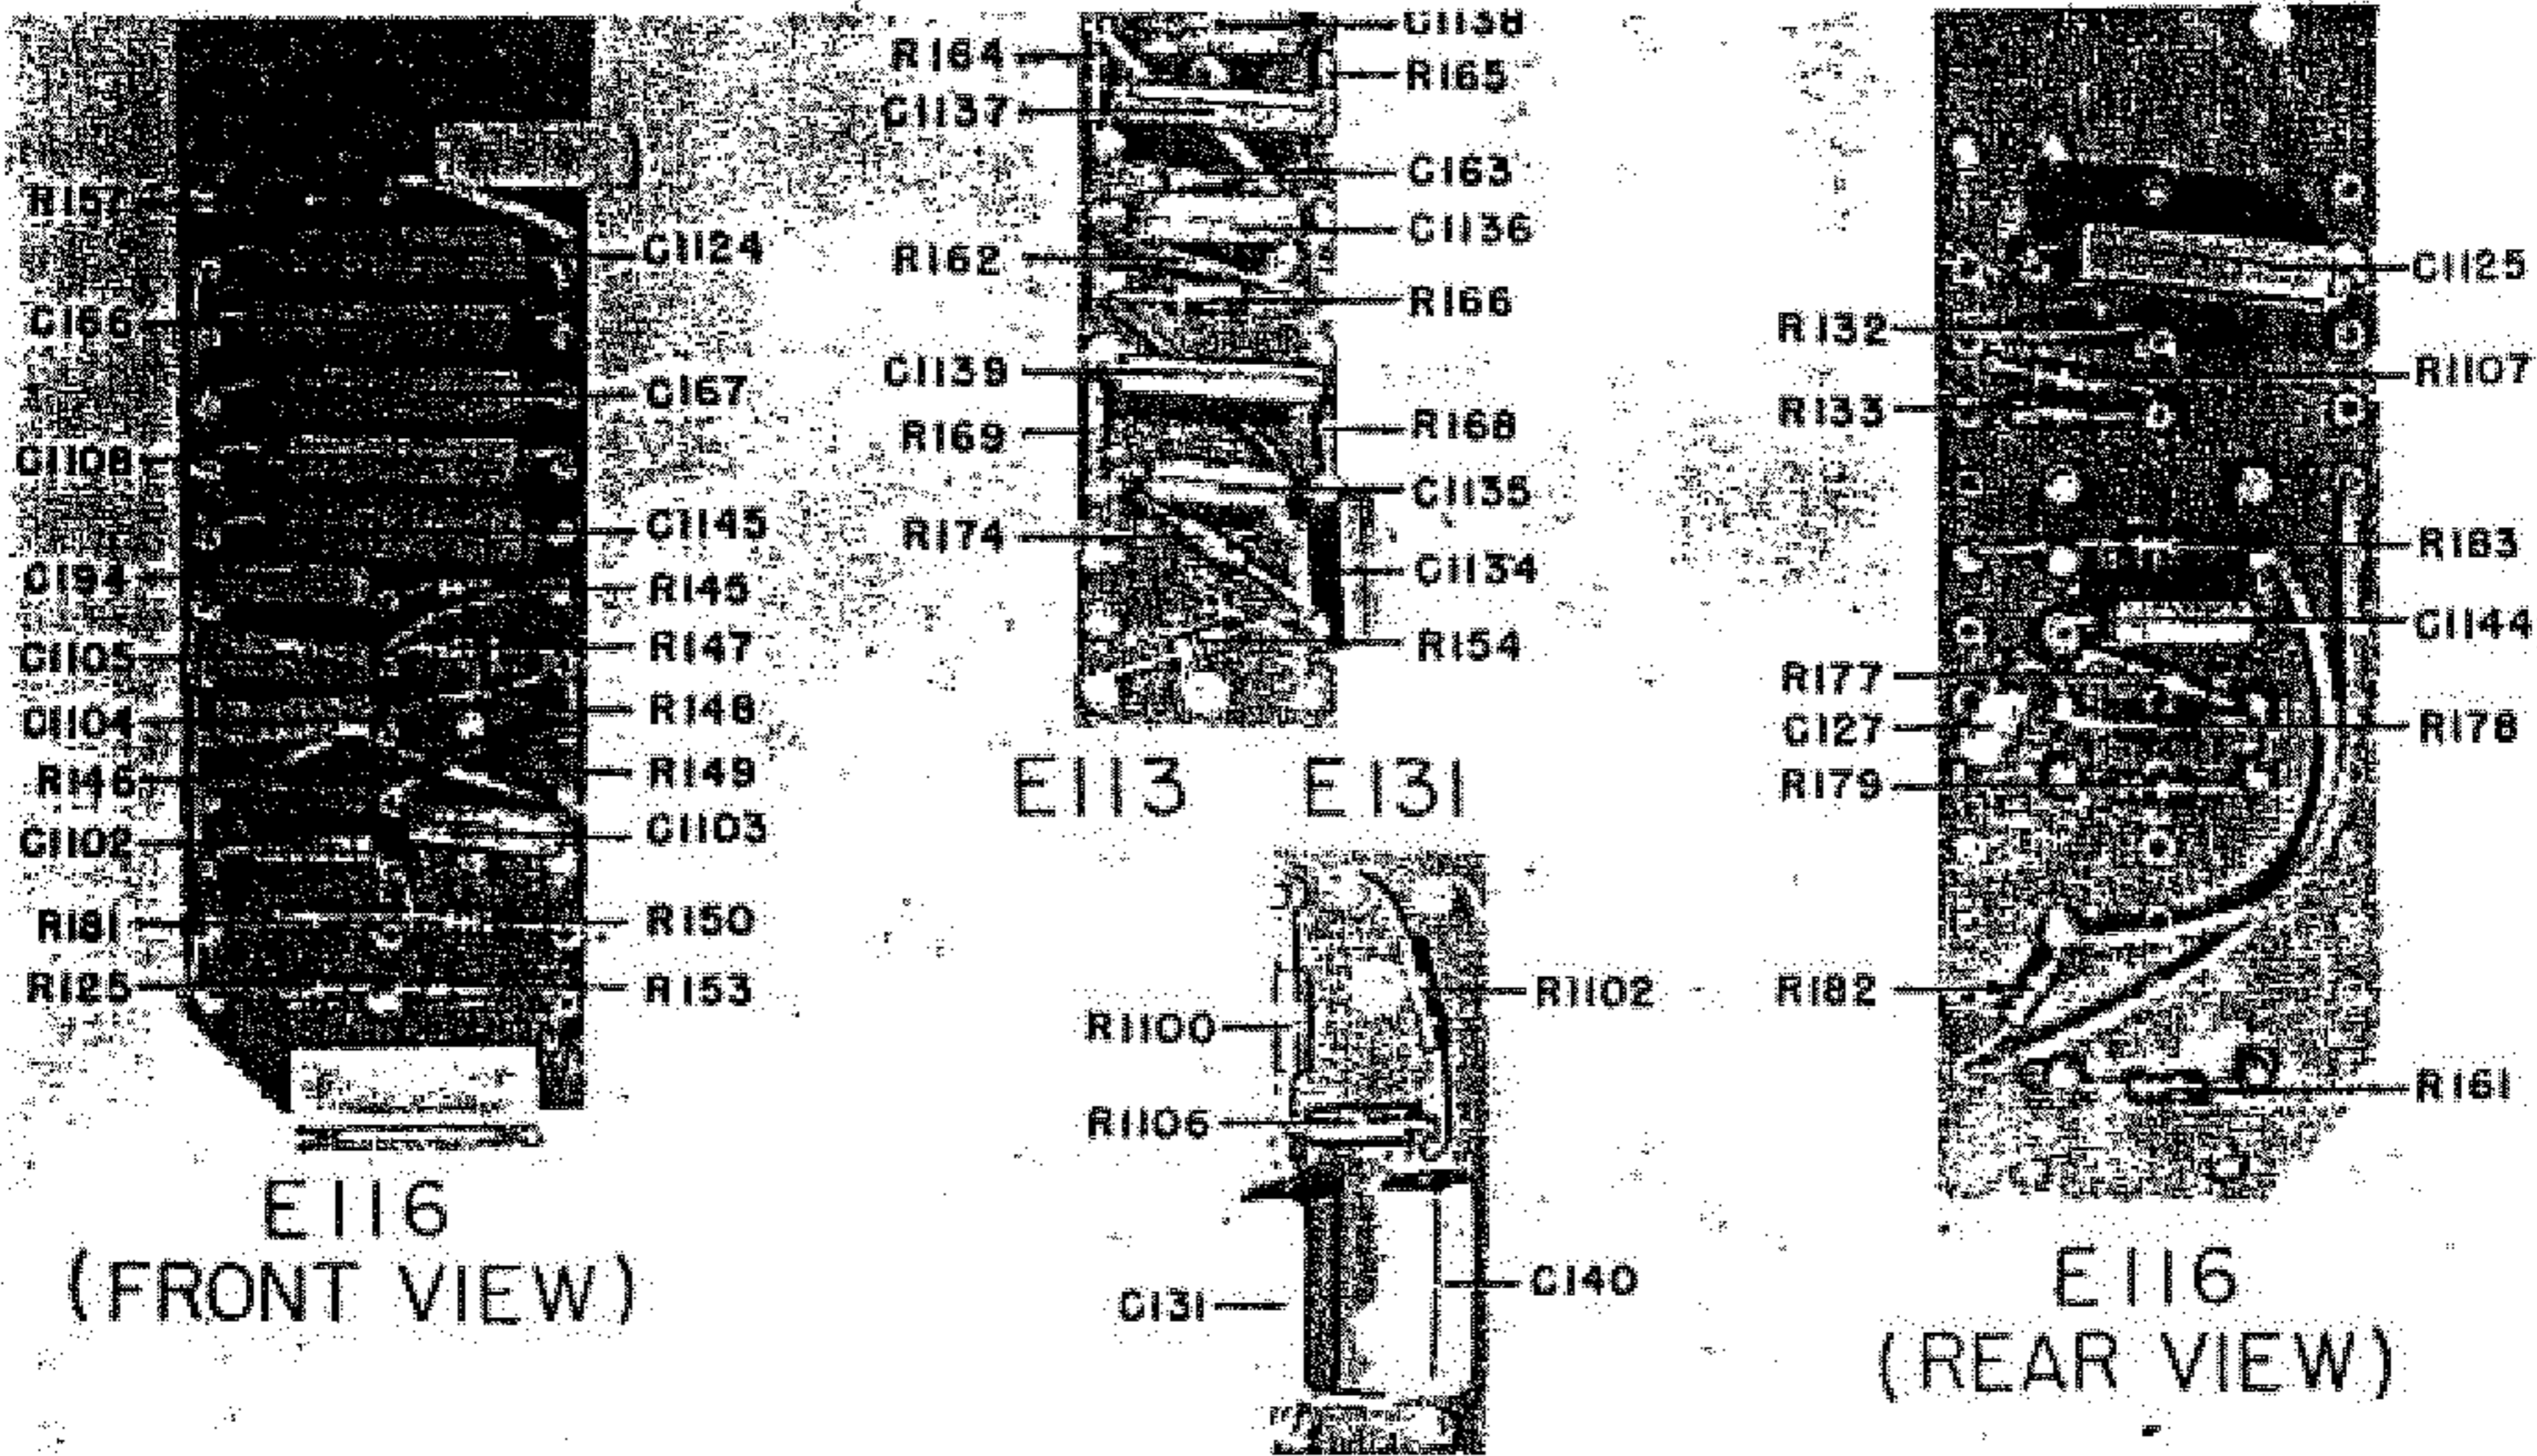
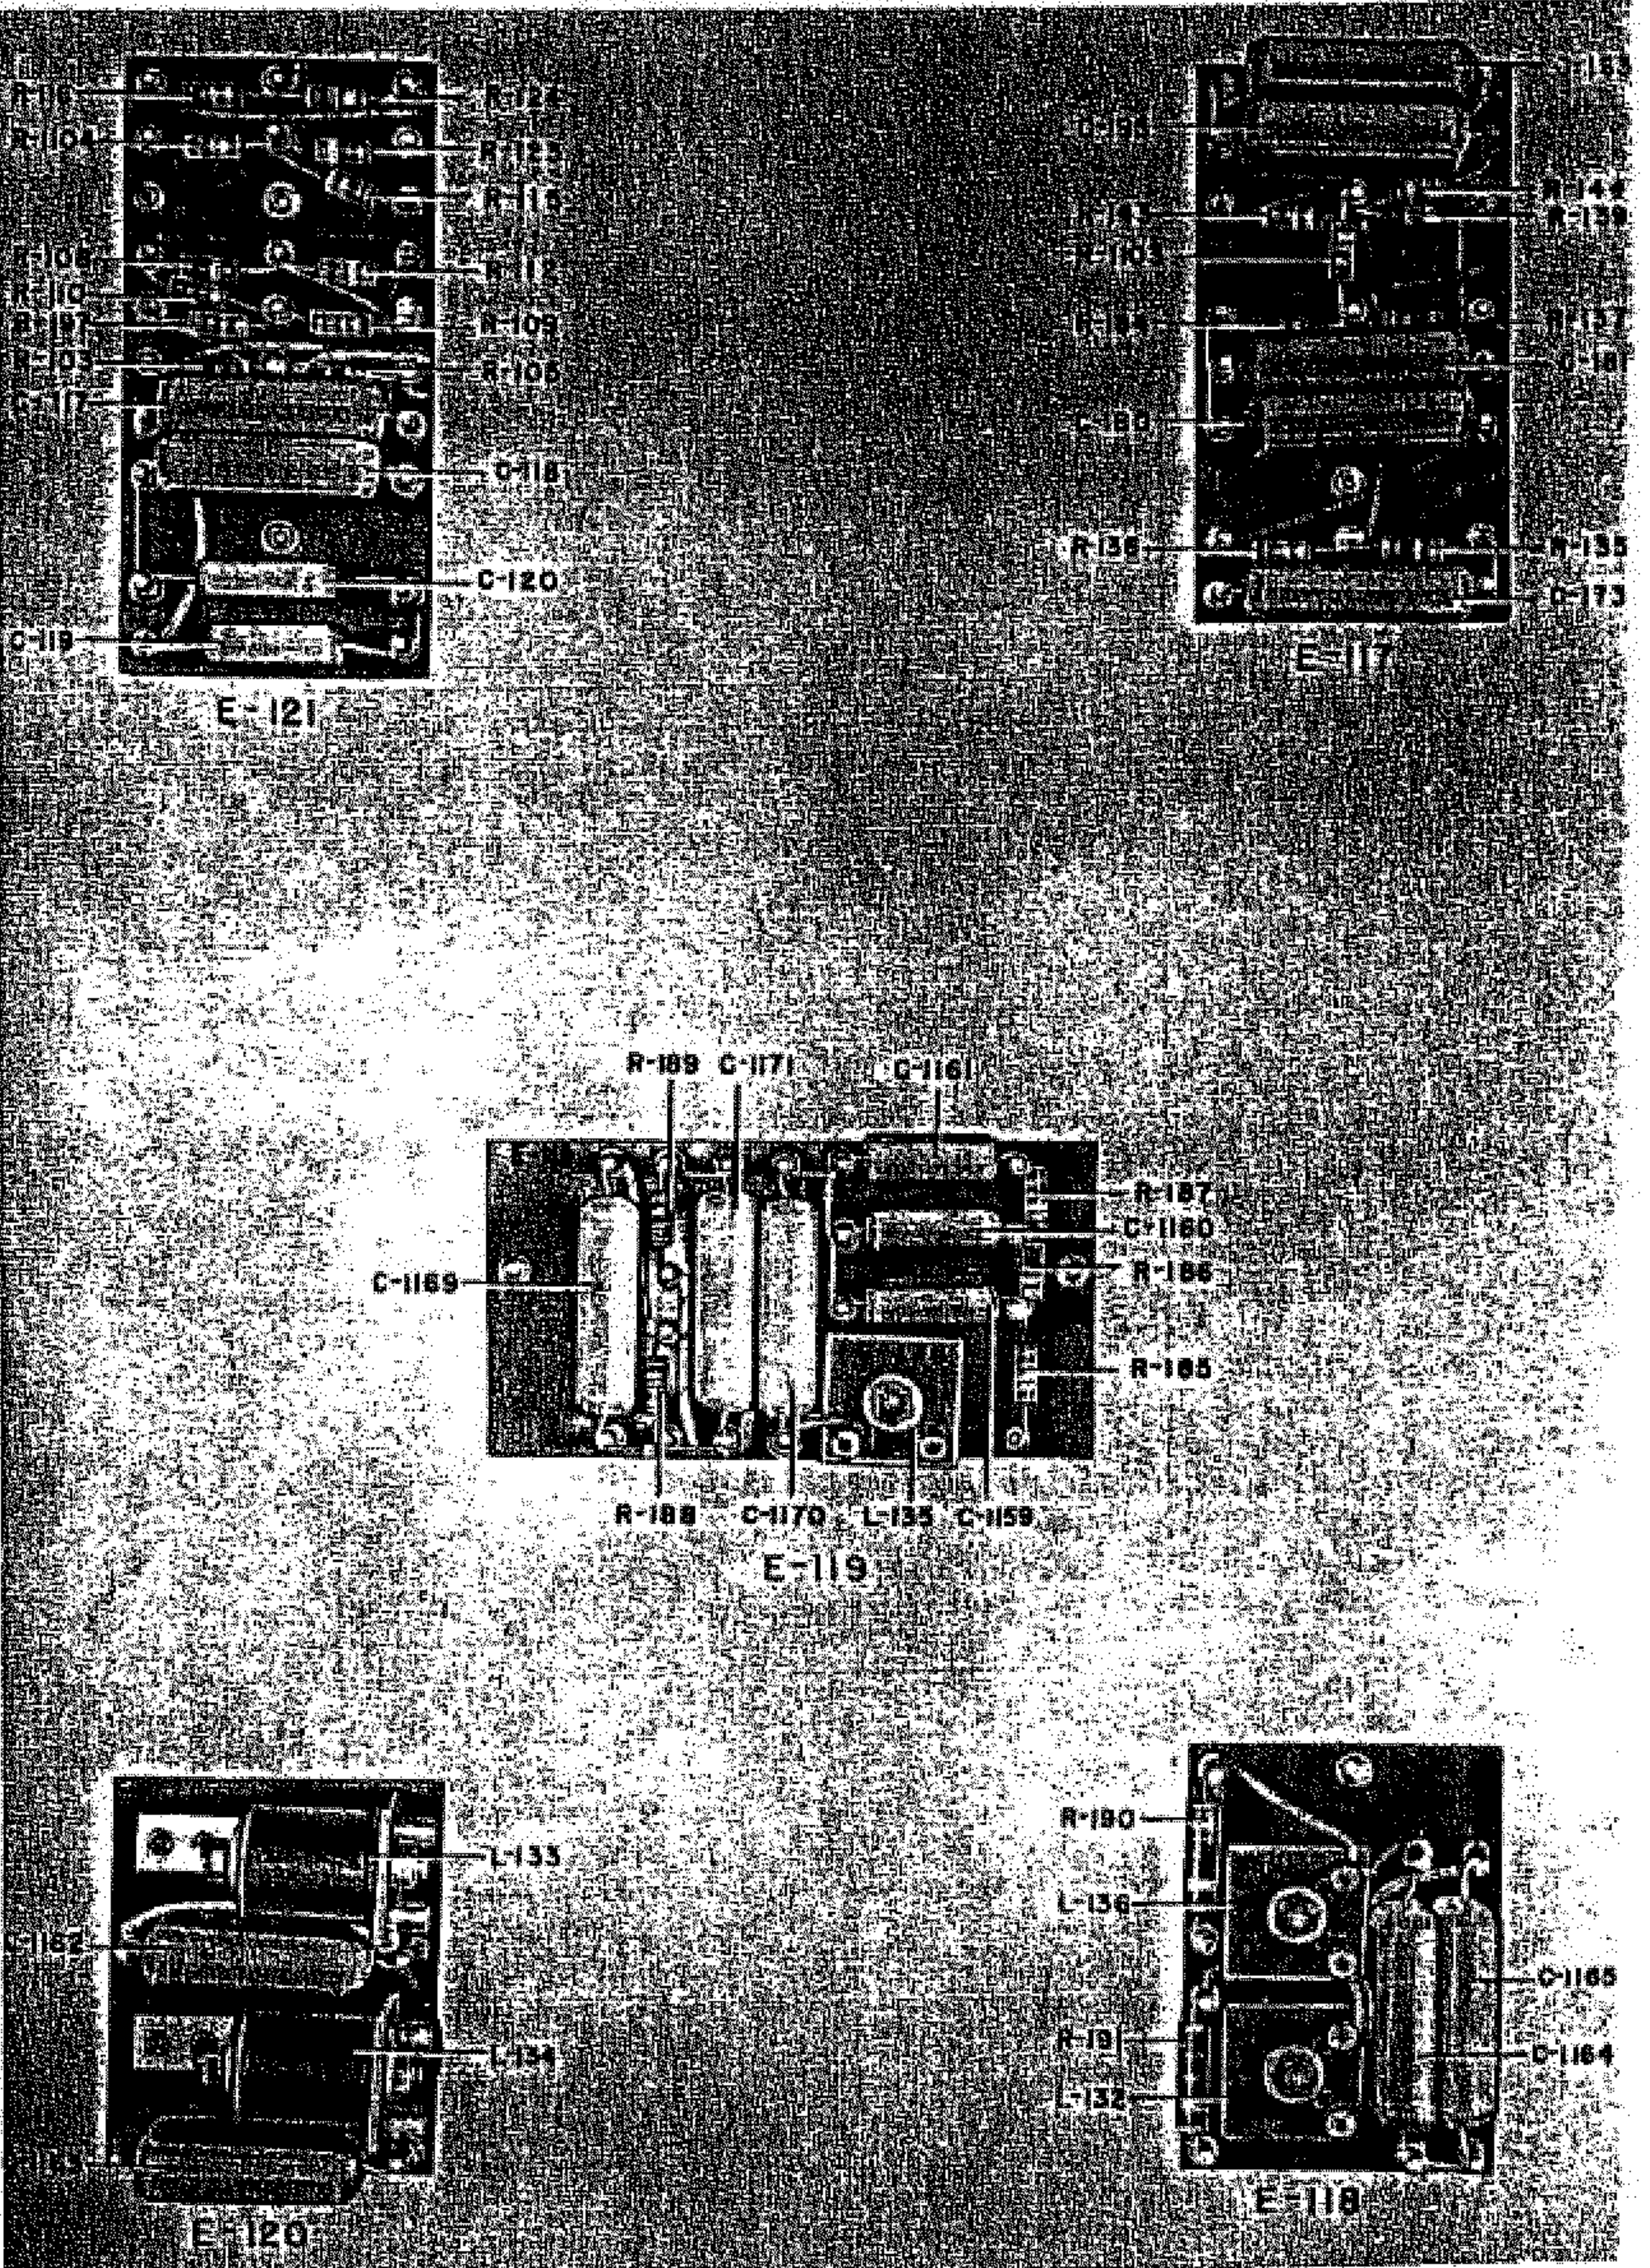

Figure 5-10. Terminal Boards Used in Radio Compass Unit R-101/ARN-6—E-113, E-116, and E-131
Figure 5-12. Terminal Boards—E-117, E-118, E-119, E-120, and E-121
(4) With a .25-microfarad capacitor temporarily bridge the following two points: the junction point of R-150, R-181, and C-1102, located on terminal board E-116 (figure 5-10 or 5-11), and either terminal lug of capacitor C-117 or C-118, both of which are located on terminal board E-121 (figure 5-12). The result of this bridge should cause the loop to turn clockwise (in R-101/ARN-6) or counterclockwise (in R-101A/ARN-6) when connected to C-117 and counterclockwise (in R-101/ARN-6) or clockwise (in R-101A/ARN-6) when connected to C-118. If the above checks cause the loop to rotate satisfactorily, check the modulator input circuits. Also check the switches and transformer windings in the antenna transformer assembly L-103. Should no loop rotation result when the above capacitor bridge is applied, proceed as follows.
(5) With a vacuum tube voltmeter, check the output of the modulation transformer T-119 for 100 cycle-per-second AC modulation voltage. Check for the above voltage between ground and both terminals of C-117 and C-118 located on terminal board E-121. (See figure 5-12.) If no modulation voltage is present, check for possible shorts in modulation transformer T-119, relay K-101, and condensers C-1161, C-1160, or C-1159. Also check for possible open circuit of R-187, R-186, R-185, or connecting wires. If modulating voltage is correct, proceed as follows.
(6) Bridge a short-circuiting jumper from terminal 8 of transformer T-106 to terminal 4 on the power
(4) PHASE SHIFTING AND FILTER NETWORK.—The output of the filter network, consisting of R-185, R-186, R-187, C-1159, C-1160, and C-1161, should result in a good sine-wave voltage with a phase shift of 90 degrees with respect to the square-wave input. To check the output waveform of the above network, apply the voltage at terminal 13 of the vibrator terminal strip to the X axis input of the oscilloscope. Use internal sweep of 100 cycles per second. The waveshape should be similar to that shown in waveform "A", figure 5-16. To check the phase shift resulting from the network, remove the internal sweep of the oscilloscope and connect the Y axis input of the oscilloscope to the input of the filter network. The input point is accessible at the junction of C-1162 and L-113 located on terminal board E-120 (see figure 5-12). The resultant waveform should be similar to that shown in waveform "E", figure 5-16.
(5) COMPASS AMPLIFIER FREQUENCY RESPONSE.—Remove the vibrator V-102 from the vibrator power supply and operate the equipment on "COMP-ADE." Apply the output of an audio signal generator through a .25-microfarad capacitor to the grid (pin 2) of the first audio amplifier V-108. Keep the audio signal level below 0.5 volt so as not to overload the circuit. To measure the voltage output attach a vacuum tube voltmeter or oscilloscope between ground and terminal 8 of the compass transformer T-106. Vary the audio frequency input between 70 and 130 cycles per second and note the resonant peak at about 100 cycles per second. The output voltage should fall off quite sharply above 120 and below 80 cycles per second. If C-1146 or C-1147 were open, the resonant point would change and poor compass operation would result.